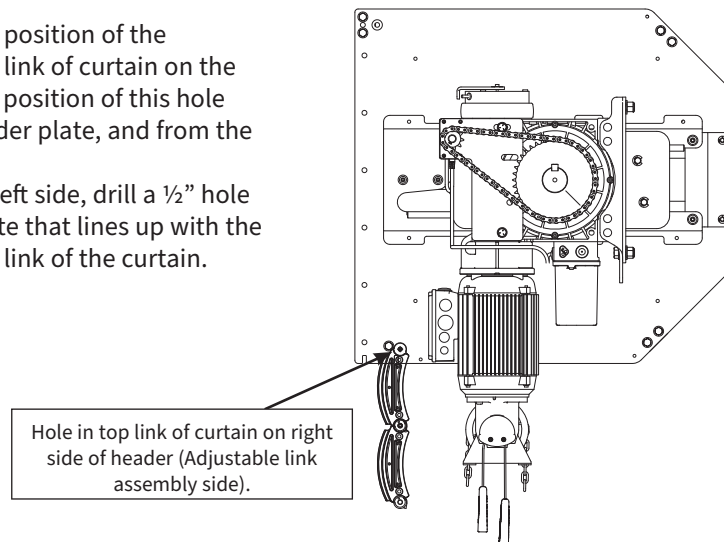

Figure 9: Top Link Of Curtain, Left Side Of Header
- 1 Referring to (Figure 9), note position of the attachment hole on the top link of curtain on the left side of header. Measure position of this hole from the bottom of the header plate, and from the wall surface.